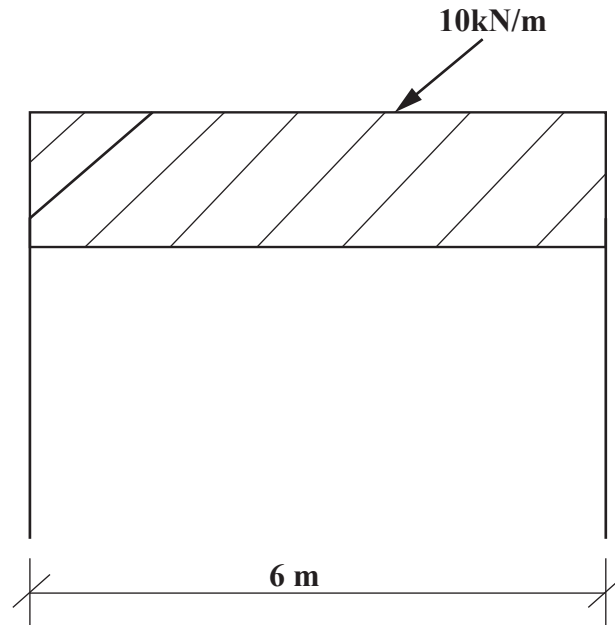

Fig. 11(a)
- 11 (a)** Figure 11(b) shows a beam supported at two points.